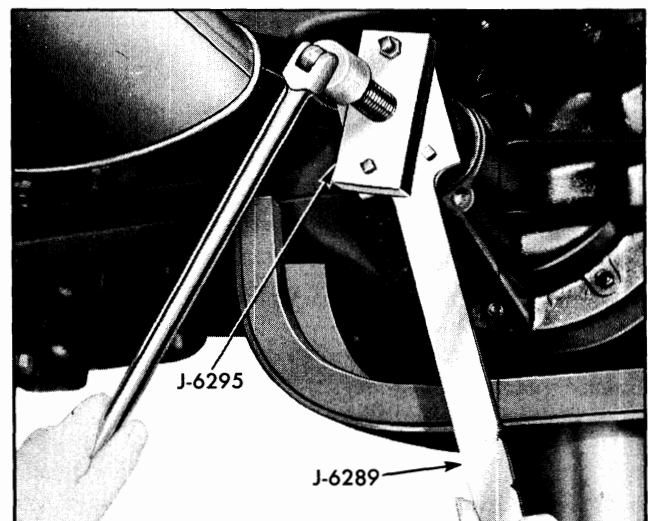

Fig. 4-13 Removing Companion Flange with Puller J-6295
7. Remove companion flange using puller J-6295 (Fig. 4-13).